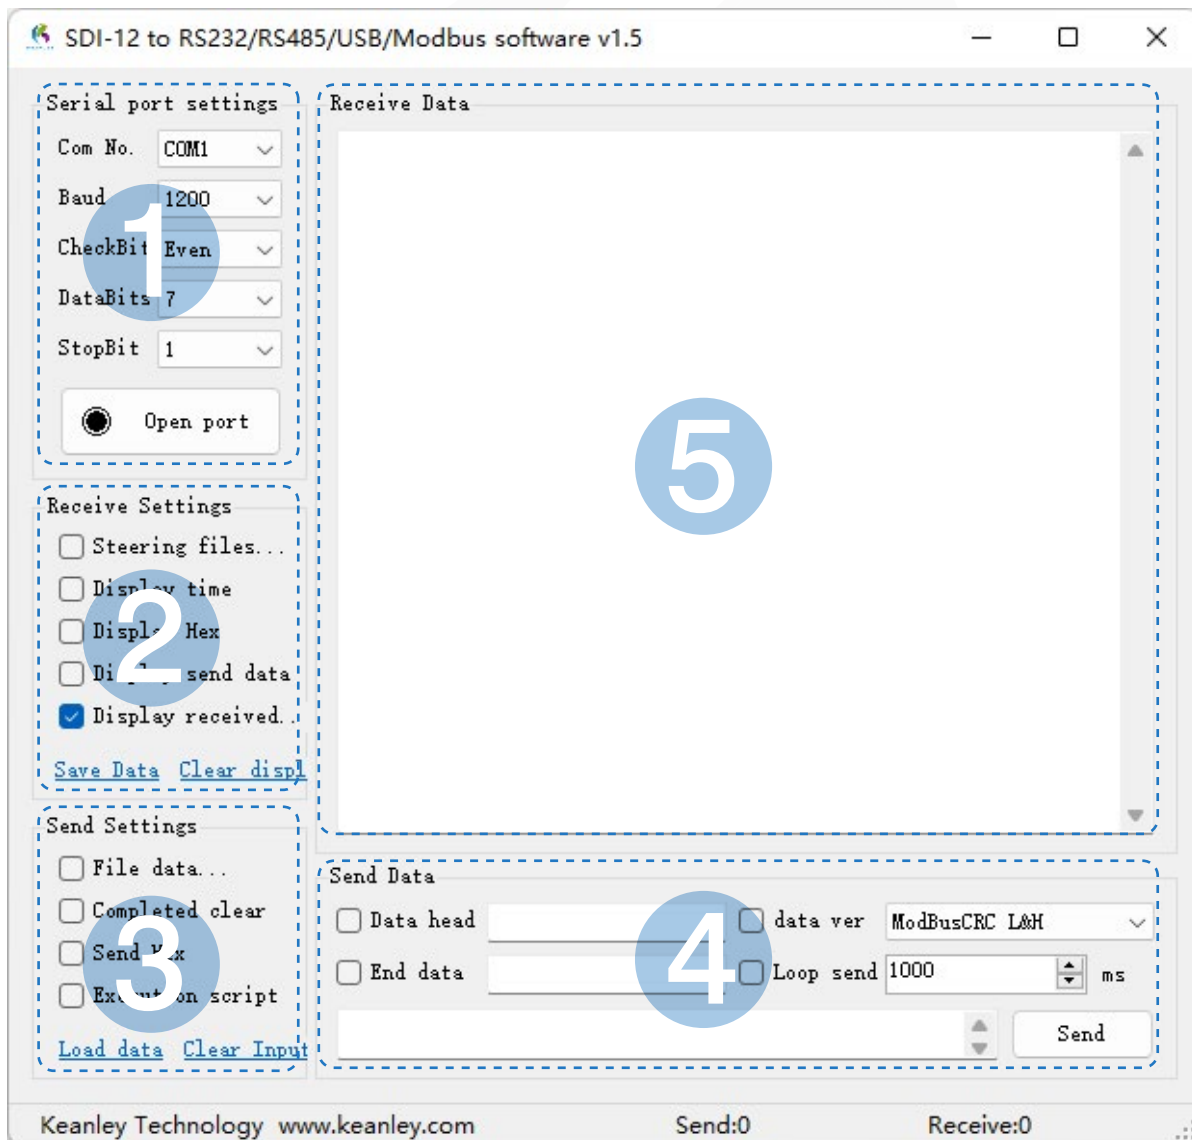

Figure 5. Software initial interface
■ Double click to open the downloaded file “SDI-12 Interface conversion.exe” as shown in Figure 5 below.
As shown in Figure 5, the interface conversion software is divided into five regions.